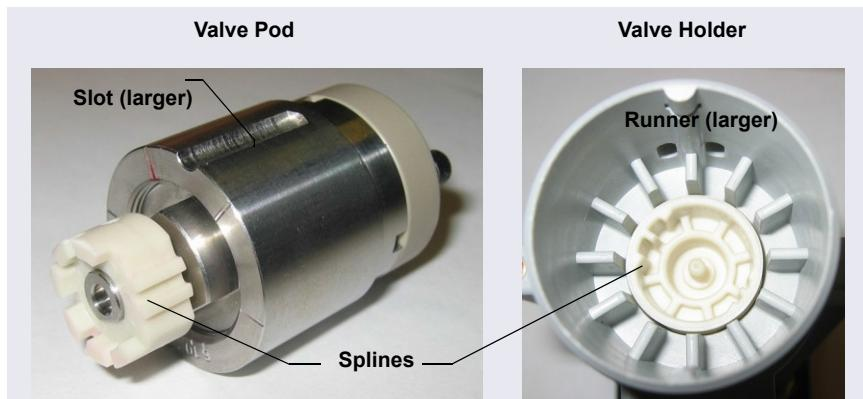

Figure 10-38. High-Pressure Valve Pod and Pod Holder
7. Align the slots in the new pod (4-port, P/N 074699; 6-port, P/N 075971; 10-port, P/N 075972) with the runner in the valve holder on the DC or AM (see Figure 10-38). Valve pods are keyed to fit only one way (one slot
- Also verify that the two splines on the pod align with the matching splines inside the valve holder (see Figure 10-38). If necessary, twist the end of the pod to adjust the position of the splines.